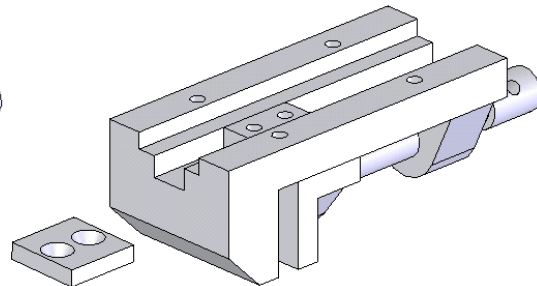

Figure 10-69 Clamping after rotating
4. Drag the cursor to rotate the clamping plate as shown in Figure 10-69.